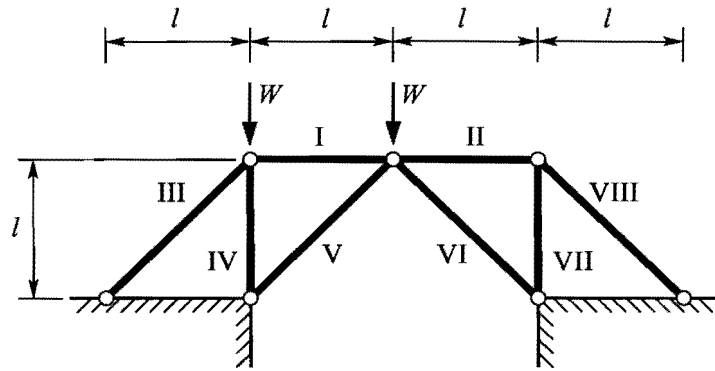

Figure 3
- * 4. Figure 3 shows a bridge structure consisting of pin-jointed members, each of axial stiffness AE . A numbering system for bars is also specified.